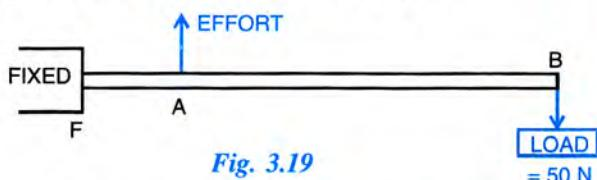

Fig. 3.19
11. Fig. 3.19 below shows the use of a lever.